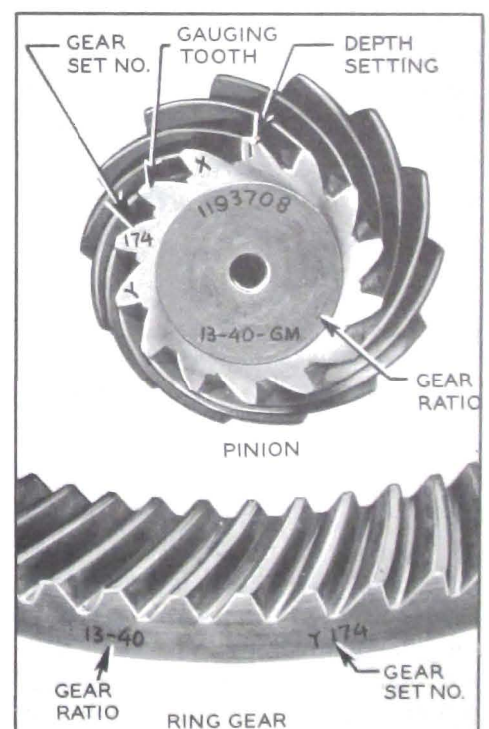

Figure 6-30—Ring and Pinion Gear Set Marking
5. Examine differential ring gear teeth for nicks or burrs or scoring. Any of these conditions will require replacement with a new gear set. Check numbers on new ring and pinion to make sure it is a matched set. See Figure 6-30.
7. Rotate the pinion until the blank tooth between the matching number and the pinion setting mark is slightly counterclockwise of top center (at about 11 o'clock). This tooth is called the gauging tooth (Figure 6-30) because it is used for locating and gauging during production and should therefore be used for gauging in service.